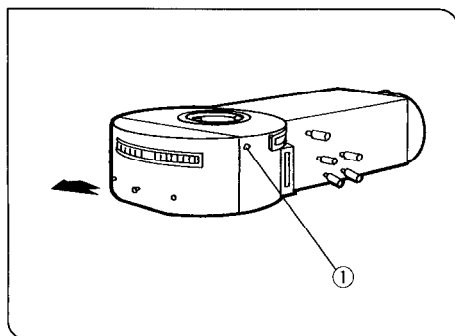
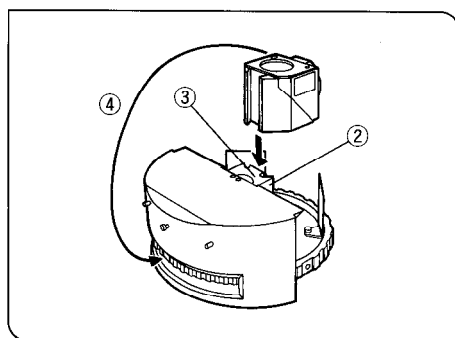

Fig. 1
Fig. 2
The design of reflected light fluorescence microscopes features dichroic mirrors which direct the excitation light through the objective, to the area of the specimen, thus providing efficient illumination. (Fig. 1)
The spectral characteristics of the dichroic mirror when it is positioned at an inclination of 45° to the optical axis of incident light is shown in Fig. 2. Because a cross-over exists between transmittance and reflectance, it is necessary to use an appropriate combination of exciter and barrier filters in conjunction with the dichroic mirror. This is necessary to achieve a good contrast image through fluorochrome excitation in the specimen, at the desired wavelength.
(Figs. 1, 2, 3)
1. Loosen the clamping screw ① at the right of the vertical illuminator using the Allen screwdriver provided with the microscope frame. (Fig. 1)
2. Pull out the turret in the direction indicated by the arrow, then invert the turret so that the cube dovetail mounts ② point upward. (Dummy plates are mounted in three of the four cube positions. When you wish to use only one cube, mount it in the empty position. When using two or more cubes, loosen the clamping screw ③ and remove the dummy plate(s) by pulling in the direction indicated by the arrow, and then mount the actual cube(s) instead.)
3. Hold the cube to be mounted with its index side facing upward and slide it all the way onto the dovetail mount. Next, be sure to tighten the cube clamping screw ③ immediately. (Tighten all four cube clamping screws.)
4. Remove the cube's magnetic index sticker ④ and affix it to the corresponding turret position. (Fig. 2)
- ★ Move the cube's magnetic index sticker (WU, NU, etc.) to the corresponding A, B, C, D position on the turret. The positioning indices ⑤ A, B, C, and D on the cube dovetail mount correspond to the A, B, C and D indices ⑥ on the turret.
(Fig. 1)